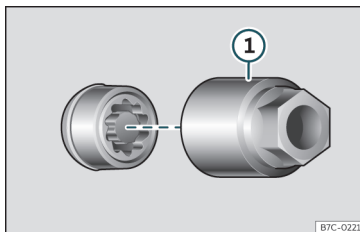

Fig. 33 Anti-theft wheel bolt with cap and adapter.
- Insert the special adapter >>> Fig. 33 ① (vehicle tools >>> page 41) onto the anti-theft wheel bolt and push it on as far as it will go.